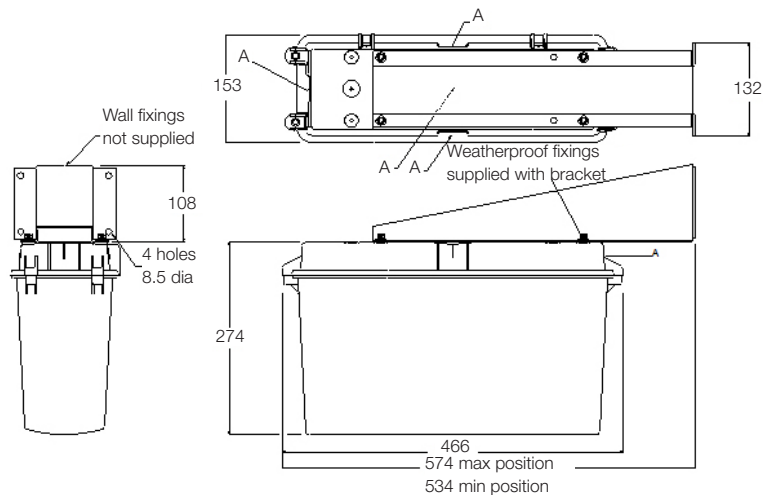
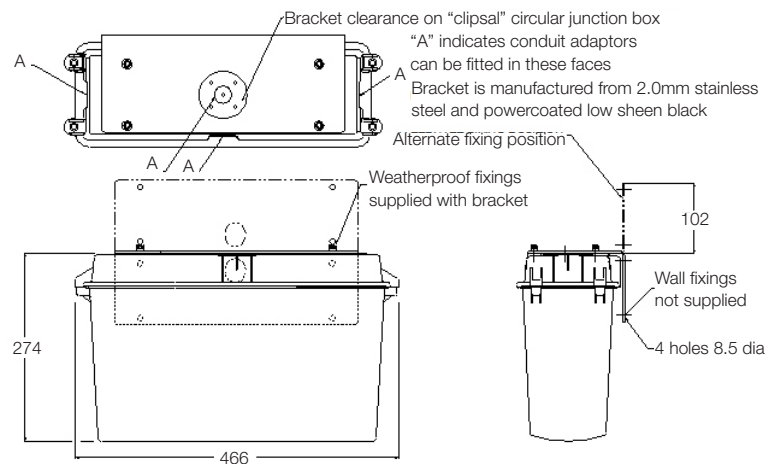
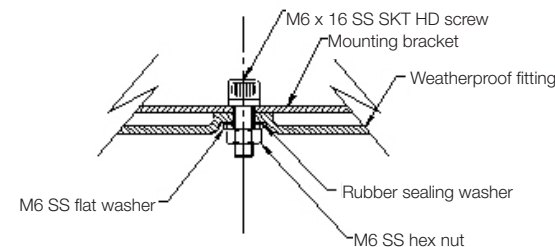
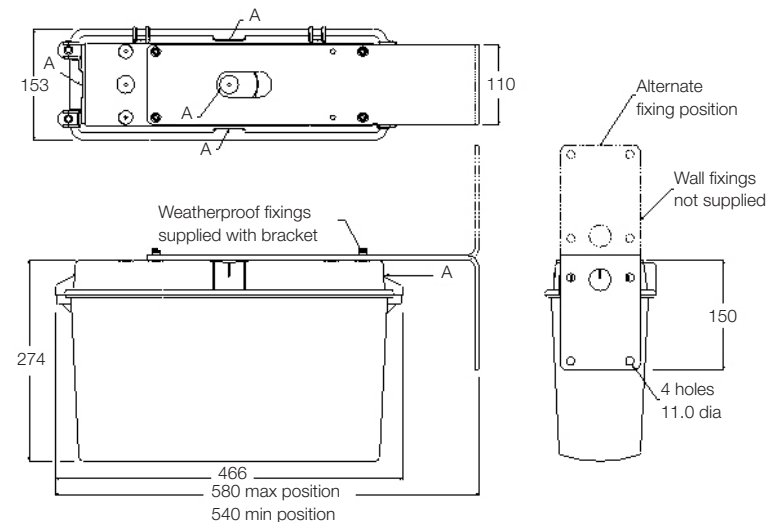

Figure 5: Showing installation detail of cantilever light weight wall mount bracket
Figure 2: Showing installation detail of wall mount bracket
Figure 3: Showing details of supplied hardware to be used with the bracket
Figure 4: Showing installation detail of cantilever heavy duty wall mount bracket
- Using Stanilite light weight cantilever wall mount bracket WQFCLL; refer figure 5 for installation of cantilever light weight wall mount bracket WQFCLL. The cantilever light weight bracket is manufactured from 1.5mm stainless steel and is powder coated low sheen black.
- In figure 5 "A" indicates conduit adaptors can be fitted to these faces. Installer must ensure proper sealing of any penetration to the base to maintain the IP rating of the unit. The necessary hardware (screws, nuts and washers) are supplied with the bracket. The figure 3 shows how the supplied hardware is used when installing the cantilever light weight wall bracket to the nylon base.
- Using Stanilite wall mount bracket WQFWM; for robust wall mounting use Stanilite wall mounting bracket part number WQFWM. Refer figure 2 for installation of wall mount bracket. The bracket is manufactured from 2.0mm stainless steel and is powder coated low sheen black.
In figure 2 “A” indicates conduit adaptors can be fitted to these faces. Installer must ensure proper sealing of any penetration to the base to maintain the IP rating of the unit. The necessary hardware (screws, nuts and washers) are supplied with the bracket. Figure 3 shows how the supplied hardware is used when installing the wall bracket to the nylon base.
- Using Stanilite heavy duty cantilever wall mount bracket WQFCLH; for robust cantilever wall mounting use Stanilite heavy duty bracket part number WQFCLH. Refer following figure 4 for installation of cantilever heavy duty wall mount bracket. The cantilever heavy duty bracket is manufactured from 6.0mm mild steel, hot zinc dipped and is powder coated low sheen black.
In the above figure 4 “A” indicates conduit adaptors can be fitted to these faces. Installer must ensure proper sealing of any penetration to the base to maintain the IP rating of the unit. The necessary hardware (screws, nuts and washers) are supplied with the bracket. The figure 3 shows how the supplied hardware is used when installing the cantilever heavy duty wall bracket to the nylon base.